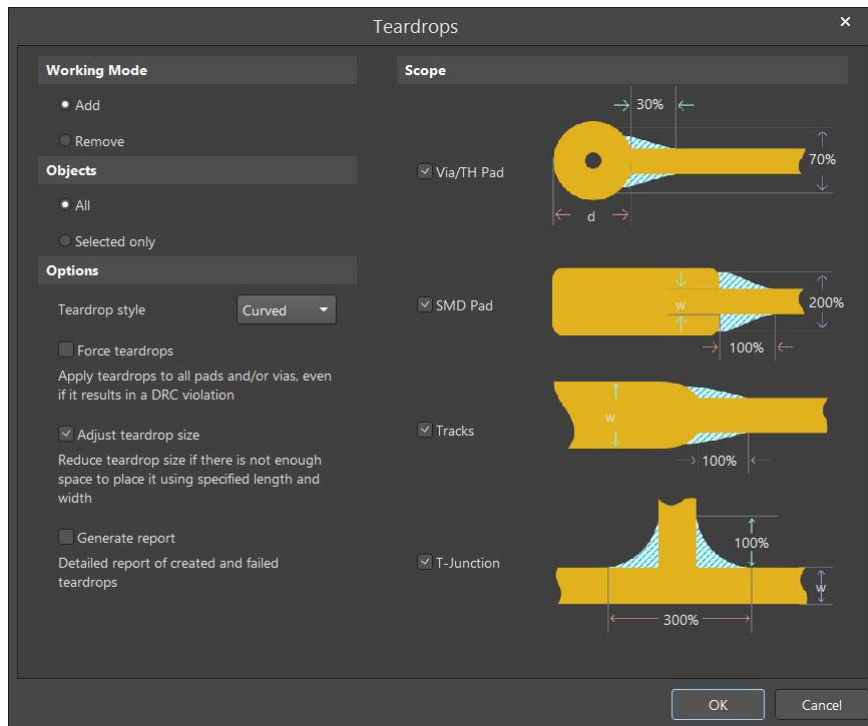

Figure 1. Teardrops dialog
4. Click **Tools » Teardrops** to open the Teardrops dialog as show in the Figure 1 below.